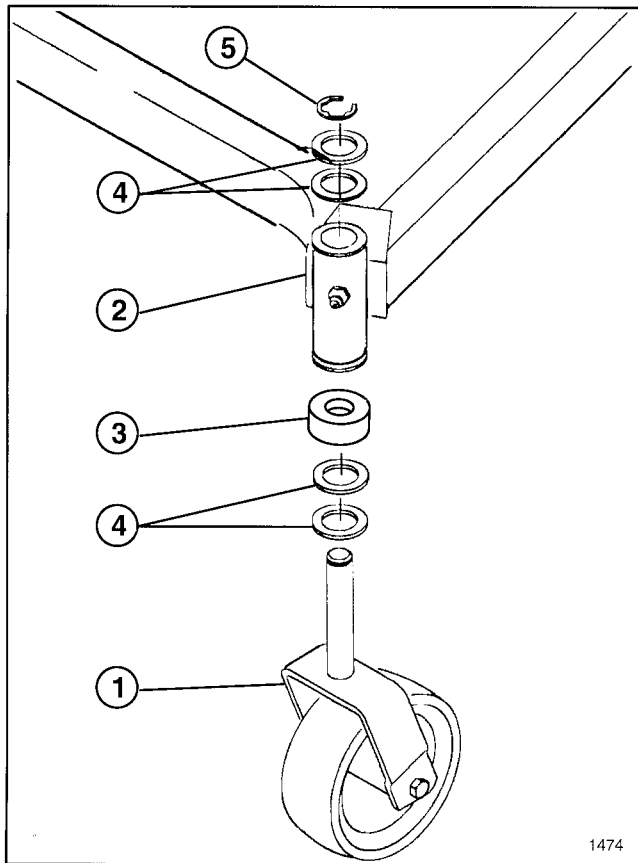

Figure 1
1. Place (2) thrust washers onto castor wheel shaft (Fig. 1).
2. If cutting unit is to be mounted on a traction unit with a serial number of 590001 & up, position a castor wheel spacer (Fig. 1) below carrier frame, when mounting castor wheels. When mounting cutting units on traction units with serial number prior to 491352 place the spacer above carrier frame.
3. Insert shaft into carrier frame mounting tube. Install (2) thrust washers and secure with retaining ring (Fig. 1).